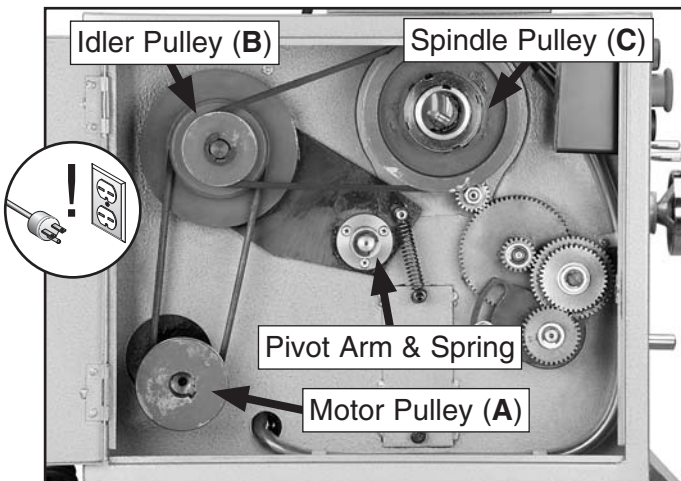

Figure 56. Lathe drive pulleys and V-belts.
2. Open the change gear cabinet door and use **Figure 56** to identify the motor, idler, and spindle pulleys. Also note the pivot arm and tensioning spring.